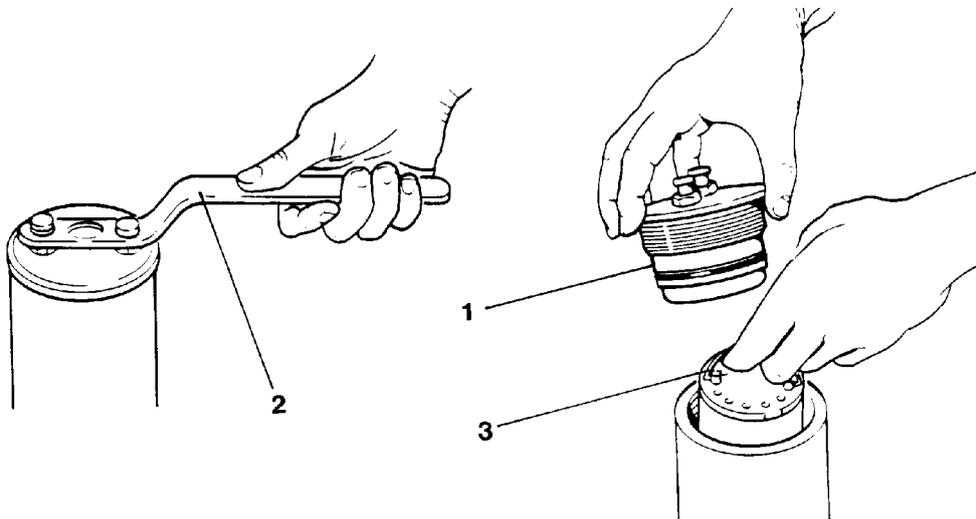

Fig. 32 Cartridge change
- On filters with **SECURUS** monitoring system unlock BNC plug of the coaxial cable by applying light pressure and turning in a counter-clockwise direction. Pull out BNC plug (see Fig. 32).
- Unscrew the filter head (1) with the special spanner (2) supplied with the unit. This tool has a recess to accommodate the BNC plug.
- Pull out used cartridge by means of its clip (3) and replace with a new cartridge.